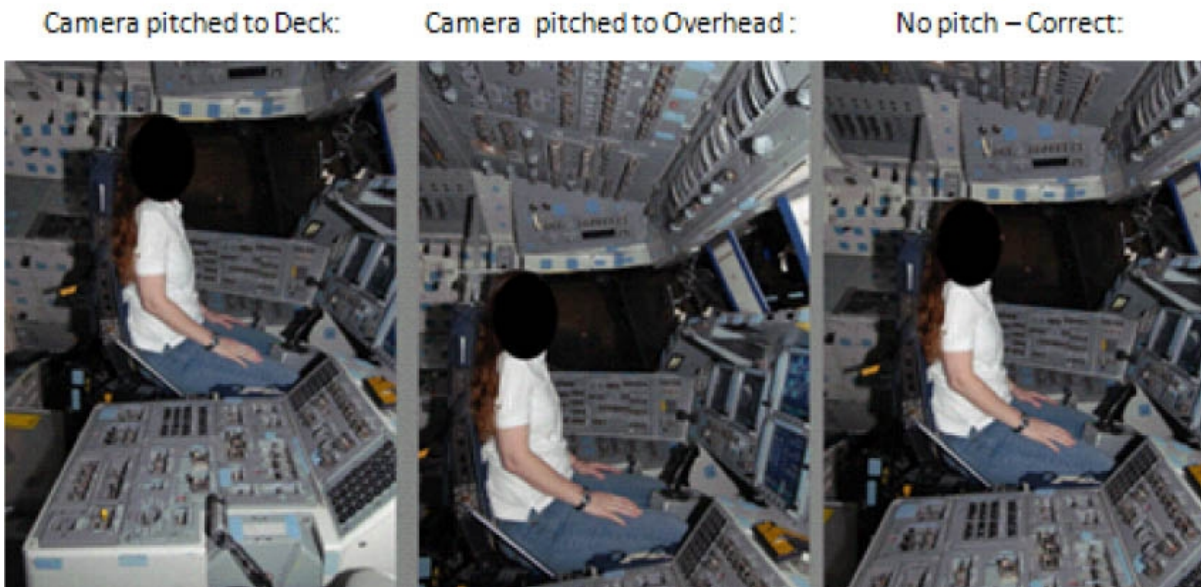

Figure 7. Views based on different camera positions.
- 4.8 Reposition camera to ensure D2Xs Camera is parallel to R6 wall and not pitched to ceiling or deck. Refer to Figure 7.